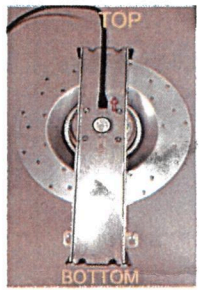

Figure 4
1. Install the replacement fan with the top of the bracket in first. (Figure 4)